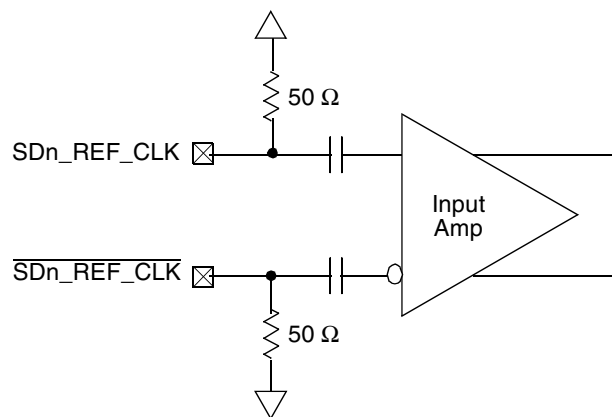

Figure 58. Receiver of SerDes Reference Clocks
Figure 58 shows a receiver reference diagram of the SerDes reference clocks.
- The SDn_REF_CLK and $\overline{SDn_REF_CLK}$ are internally AC-coupled differential inputs as shown in Figure 58. Each differential clock input (SDn_REF_CLK or $\overline{SDn_REF_CLK}$) has a 50- Ω termination to SGND (xc0vss) followed by on-chip AC-coupling.